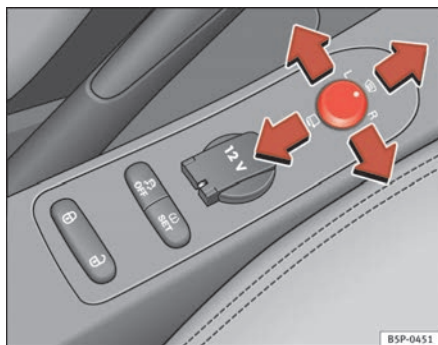

Fig. 90 Controls of exterior mirrors
1. Turn knob ⇒ **fig. 90** to position **L (left exterior mirror)**.
- Turn the knob forwards to the central position ⇒ **fig. 90**  so that the heated rear view mirrors warm up and the heated wind-screen* in the wiper blade rest area is activated ⇒ page 123.
- Turn the control ⇒ **fig. 90** to position  to fold in the exterior mirrors. You should always fold in the exterior mirrors if you are driving through an automatic car wash. This will help prevent damage.